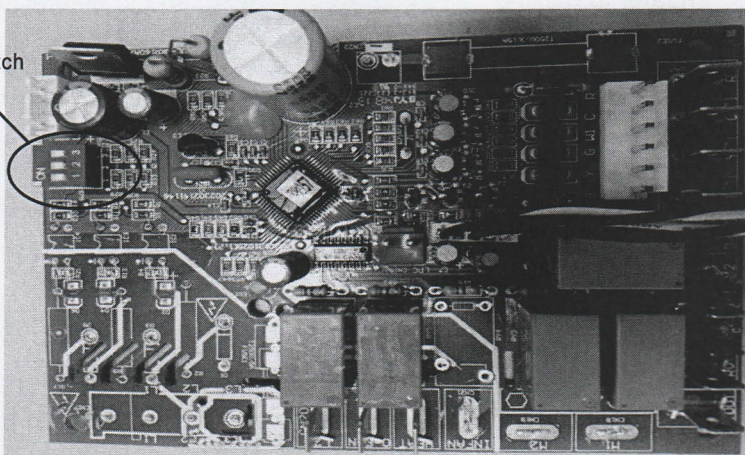

Fig.11 SW3 Switch Location in the PCB Board
7.4.1 When SW3-3 switch is set to "ON" (See in Fig 11), the mode will start up in any of the following conditions:
7.4.2 When SW3-3 switch is set to "OFF"(See in Fig 11), the mode will start up in any of the following conditions: